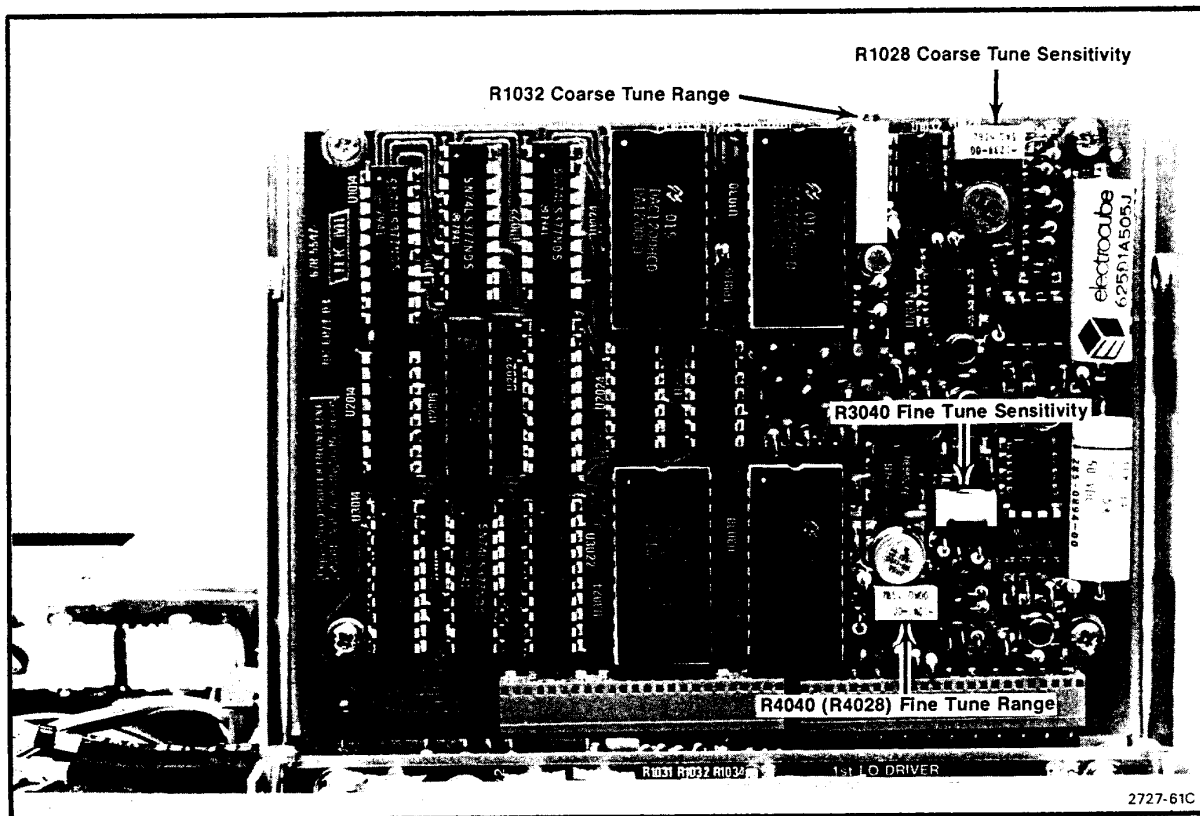

Fig. 3-33. Center Frequency Control adjustment locations.
- 1) On the Center Frequency Control circuit board, center the Fine Tune Range, R4040, and the Fine Tune Sensitivity, R3040, adjustments (see Fig. 3-33).
- 4) Adjust Coarse Tune Sensitivity R1028 (Fig. 3-33) on the Center Frequency Control board so that, on alternate sweeps, the signals align horizontally with each other.